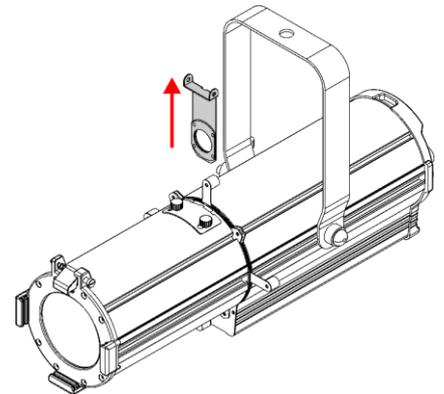

Fig. 12
- 03) Take the **gobo holder (08)** out of the of gobo slot (see Fig. 12).